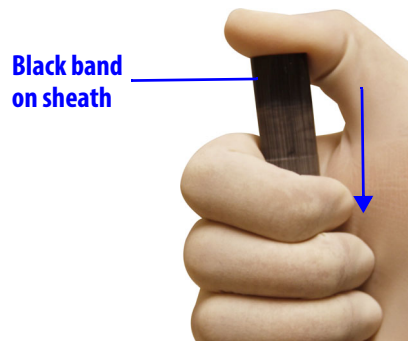

Figure 2.5 Hold thumb over black band and push black band down onto distal tip
- With one hand, wrap your fingers around the joints to stabilize the camera tip and hold your thumb over the black band on the distal end of the sheath (as shown in Figure 2.5). Slide the black band down until your thumb contacts the camera lens and the band is past the distal ridge.